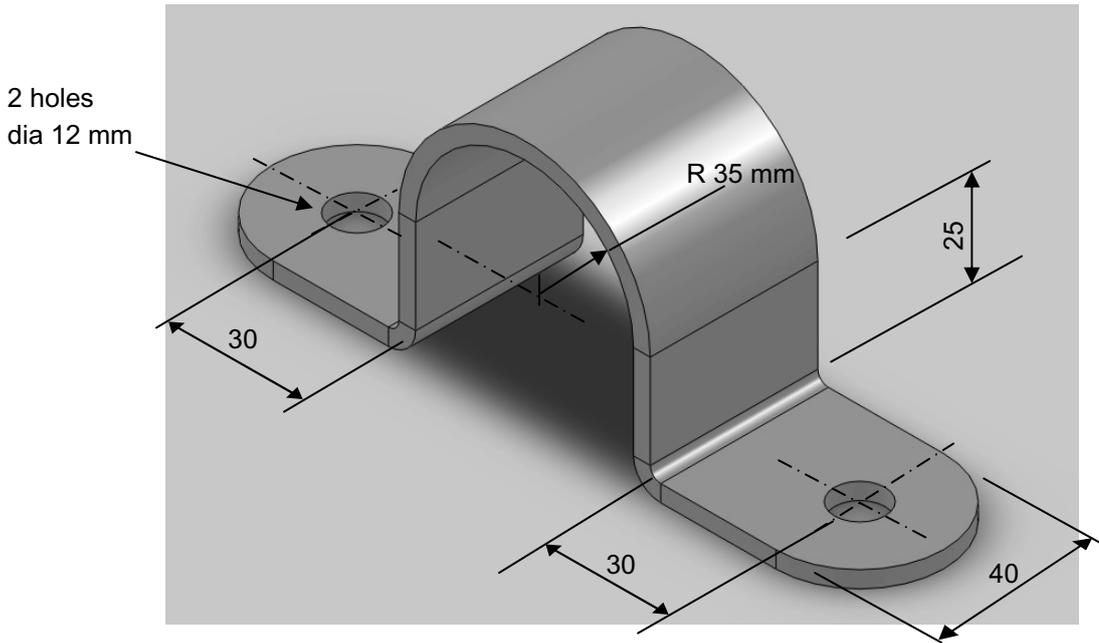
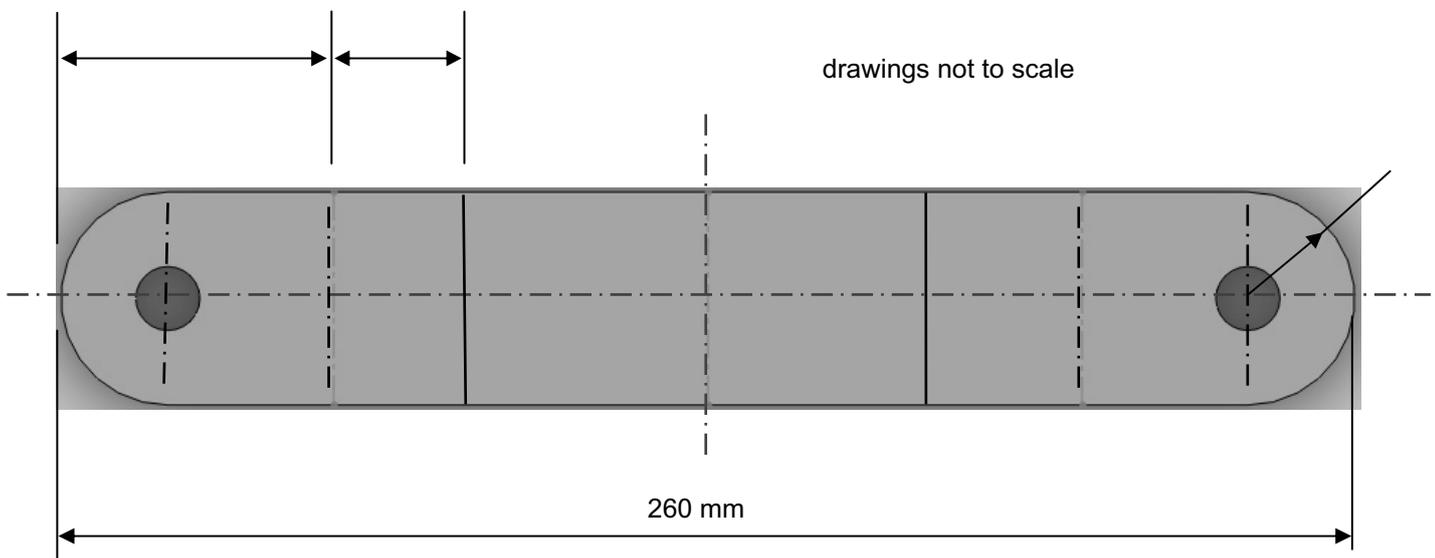

Fig. 4
Fig. 5
- 3 A CAD drawing of a bracket is shown in **Fig. 4** with its main dimensions. It is to be made from a single piece of acrylic. **Fig. 5** shows a CAD drawing of the bracket before it is shaped.
- (b) **Fig. 5** has **three** missing dimensions. Insert in **Fig. 5** the **three** missing dimensions.